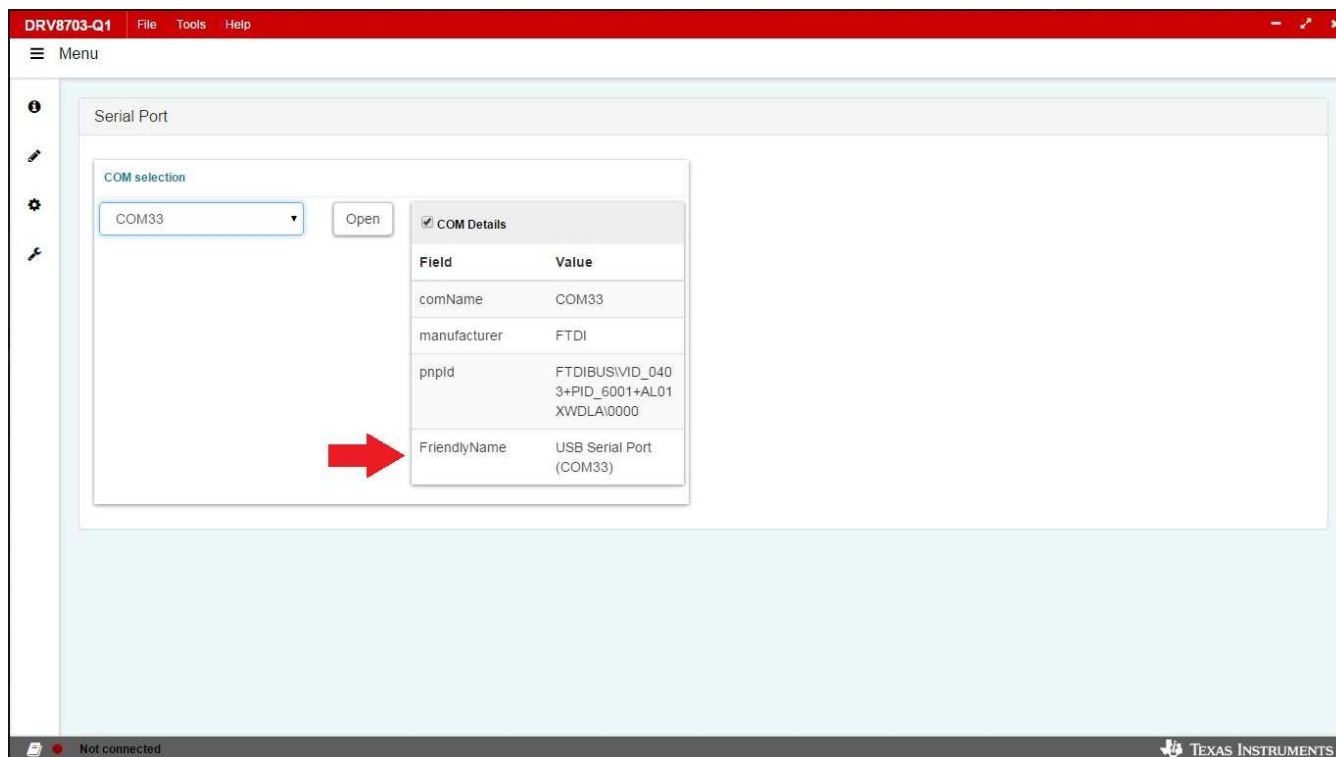

Figure 5. DRV8703-Q1-EVM GUI (List COM ports)
- Step 5. The *Serial Port* page displays a list of COMs available for opening the connection as shown in Figure 5. If nothing is physically connected to the PC, the COM drop-down list displays -- No Ports --.